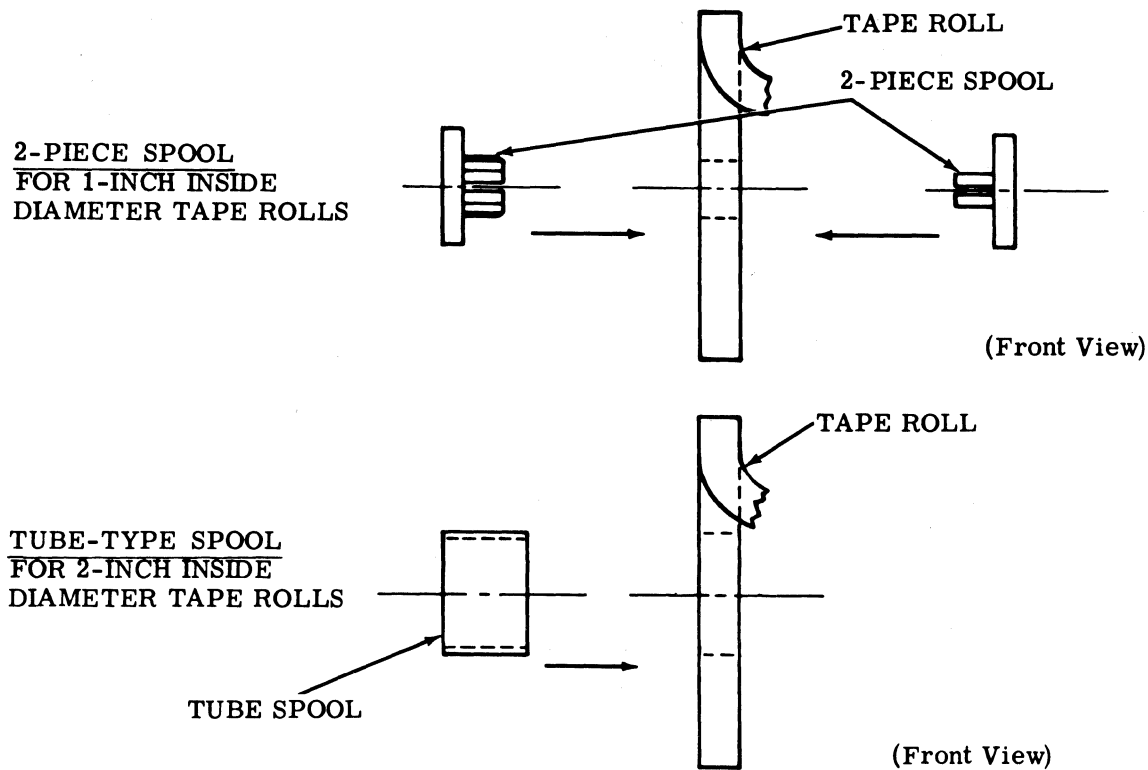

Figure 18 - Tape Roll and Tape Spool Assembly
6.02 Figure 18 illustrates the installation of a tape spool in a tape roll.